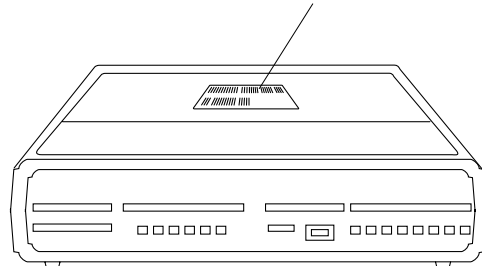

FIGURE 2-7 Determining the Version From the Serial Number Label
1. Locate the Sun serial number label on the top panel of the terminal concentrator (FIGURE 2-7).